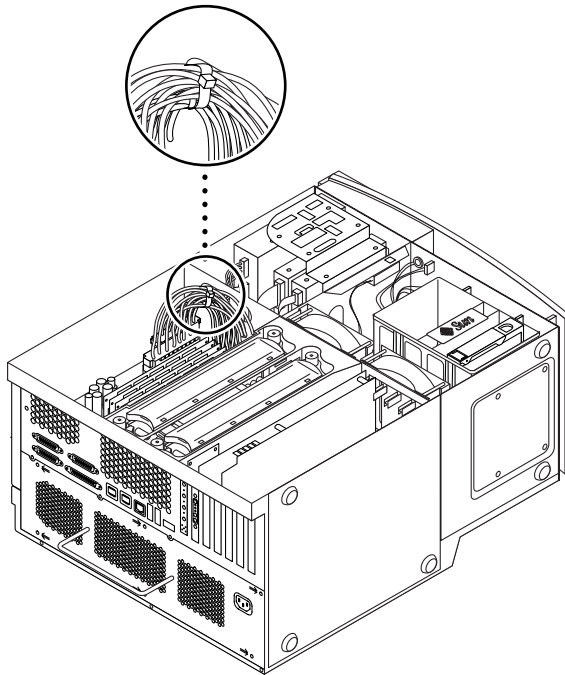

FIGURE 6-1 Power Supply Cable Tie
3. **Loosen the reusable cable tie in the upper-right corner of the chassis cutout that secures the two power supply cables. (FIGURE 6-1)**
- 6. Attach the reusable cable tie around the power supply cables (FIGURE 6-1).**